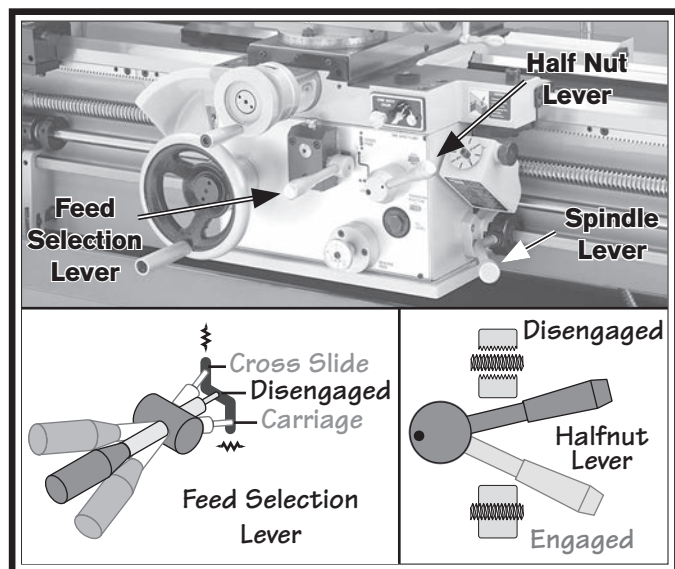

Figure 11. Disengaging carriage components.
11. To ensure carriage components do not unexpectedly move during the following steps, disengage the half nut lever and feed selection lever (see **Figure 11**).
12. Start the lathe by pulling the spindle lever out (see **Figure 11**) and moving it down.